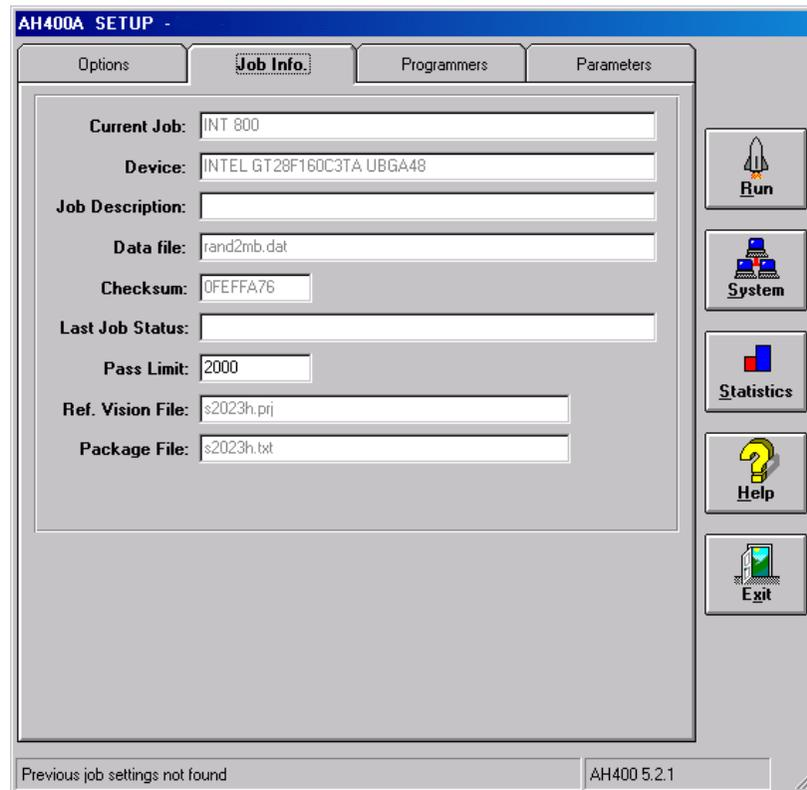

Figure 3-11—Job info
- 1b) Verify that all the information displayed matches the information for this job. See *Figure 3-11*.